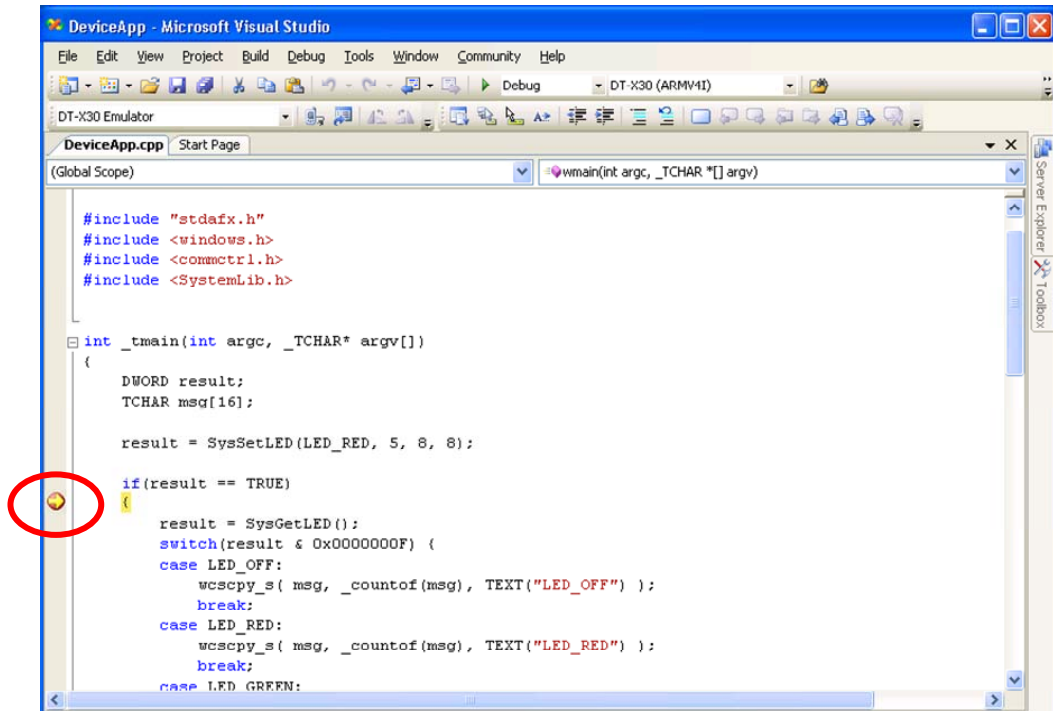

Figure 7.20
2. Similar to ordinary debugging operations with an actual DT-X30, the **Device Emulator** allows break point setting (circled in red in Figure 7.20) in the source code and step-by-step debugging.